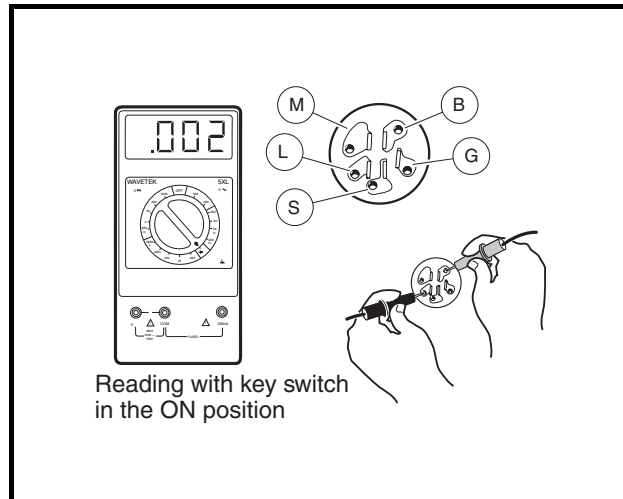
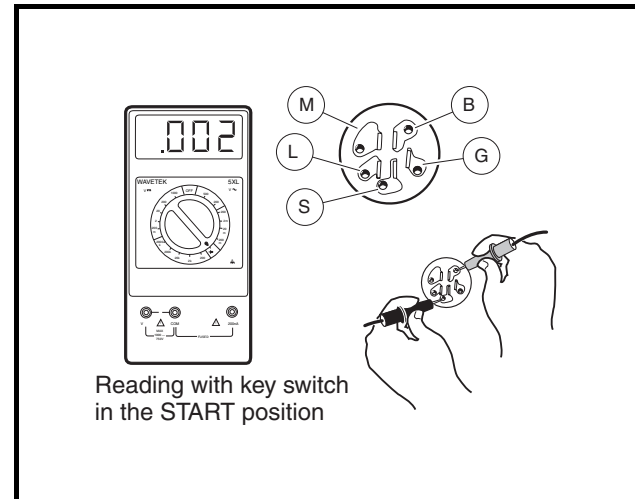

Figure 11-9 Key Switch Test – Accessory Terminal
Figure 11-10 Key Switch Test – Starter Circuit
5. Insert the key and turn the key to ON. Place the red (+) probe of the multimeter on the (B) terminal and the black (-) probe on the (L) terminal of the key switch. The reading should be continuity. If the reading is incorrect, replace the key switch (**Figure 11-9, Page 11-14**). See **Key Switch Removal, Section 13, Page 13-14.**
6. With the key still in the ON position, place the red (+) probe of the multimeter on the (B) terminal and the black (-) probe on the (S) terminal of the key switch. The reading should show no continuity. If the reading is incorrect, replace the key switch. See **Key Switch Removal, Section 13, Page 13-14.** If the reading is correct, leave the probes connected and proceed to the next step.
7. Insert the key and hold the key in the START position. The reading should be continuity. If the reading is incorrect, replace the key switch (**Figure 11-10, Page 11-14**). With the red (+) probe of the multimeter on the (B) terminal and the black (-) probe on the (L) terminal of the key switch, the reading should be continuity. If either reading is incorrect, replace the key switch. See **Key Switch Removal, Section 13, Page 13-14.**
5. Insert the key and turn the switch to the ON position. With the multimeter set to 200 ohms, place the red (+) probe of the multimeter on the (B) terminal and the black (–) probe on the (L) terminal of the key switch (**Figure 11-9, Page 11-14**). The reading should be continuity. If the reading is incorrect, replace the key switch. See **Key Switch Removal, Section 13, Page 13-14.**